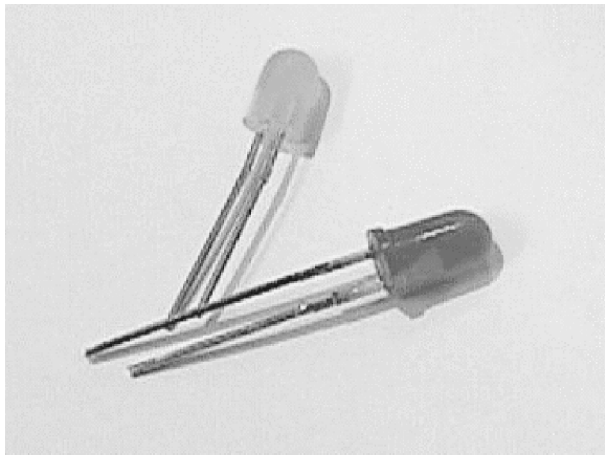

Figure 1.
(1) Ease of mounting. The loose lamps in Figure 1 have solid leadwires and no built in means for installation. There are some holders for loose lamps that make 'em easier to mount but you still have to deal with the solid wire leads.
(2) Ease of wiring. All except the loose lamps shown in this article have interconnection features friendly to installation in aircraft. Lamp assemblies with built in resistors have added incentives for selection.
(3) Viewability and finished appearance. All of the products reviewed would look good installed. My personal preference would lean toward the RS276-011 device. In my opinion, it's tapered, polished black bezel looks pretty sharp. It's intensity seems adequate too.